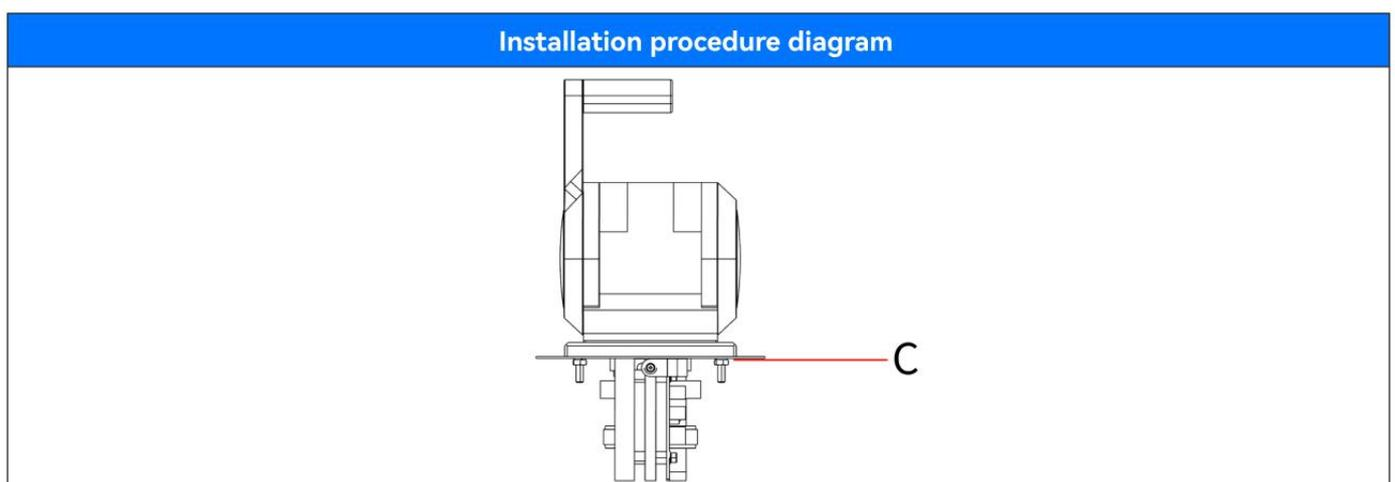

Figure 3.3
3. Secure the handle to the mounting plate by installing studs and accessories, and tighten nut C. Make the handle and mounting plate tight and reliable. There should be no gap or shaking on the contact surface, as shown in Figure 3.3.